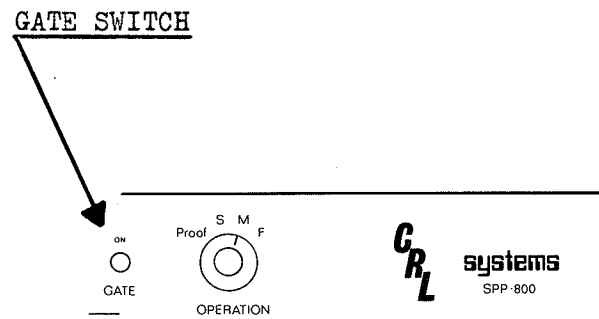

FIGURE 3-4 GATE SWITCH
3.1.4 Gate Switch (Figure 3-4)